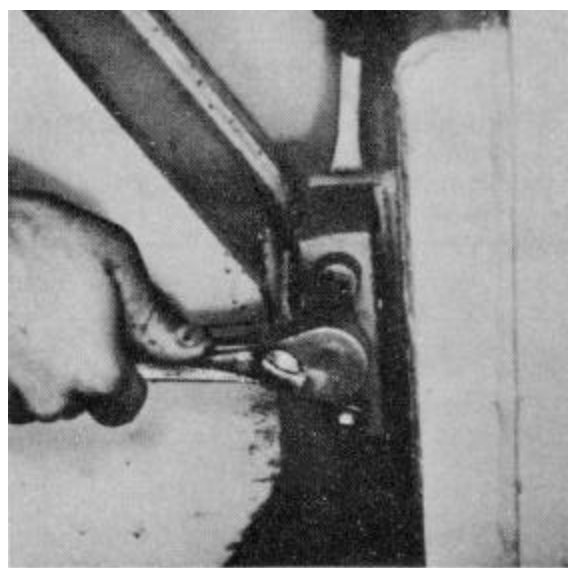

Figure 5-71
7. Remove the two bolts and lock nuts from the rear trunnion block (Fig. 5-71).